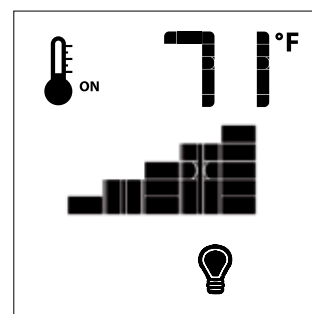

Figure 16
The intensity of the output can be adjusted through six (6) levels. Use the Up/Down Arrow Keys (Fig.1) adjust the output level (Fig. 16). A single "beep" will confirm reception of the command.